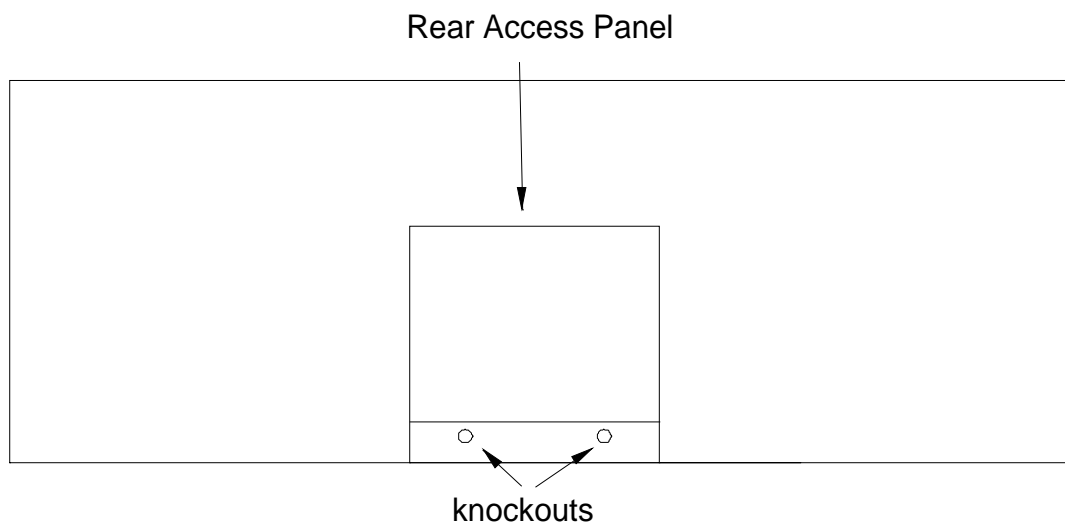

Figure 6 Rear Access Panel
1. Remove the hex head screws which hold the rear access panel in place (Figure 6).